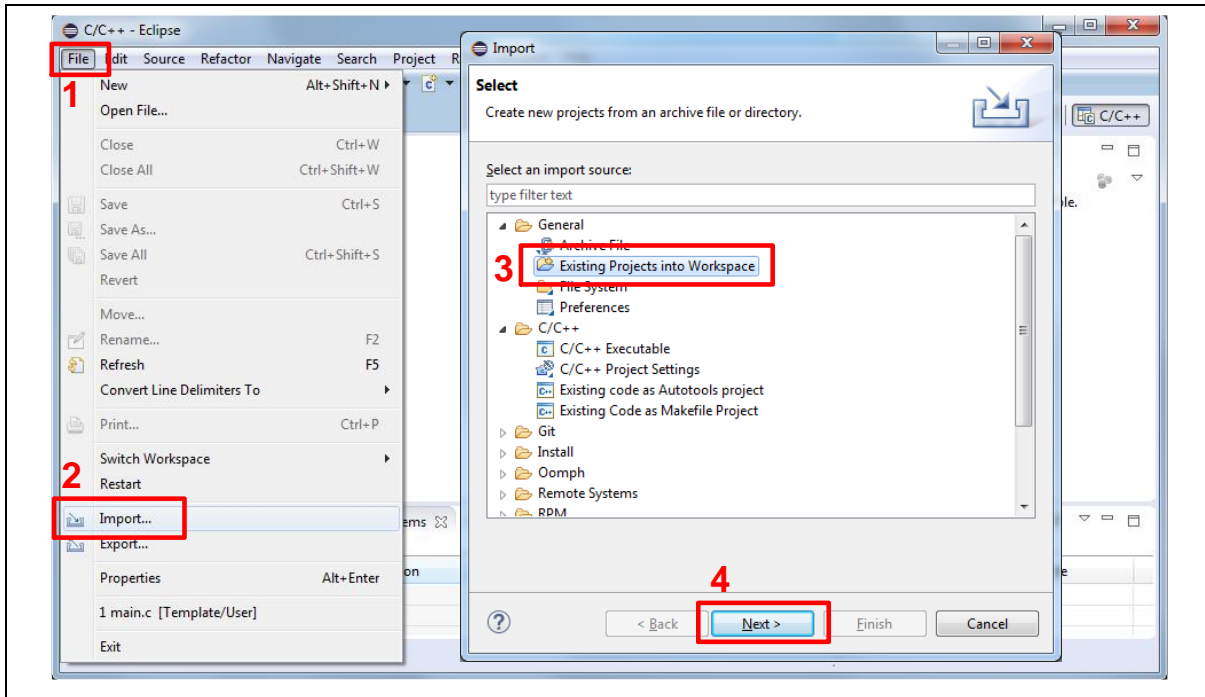
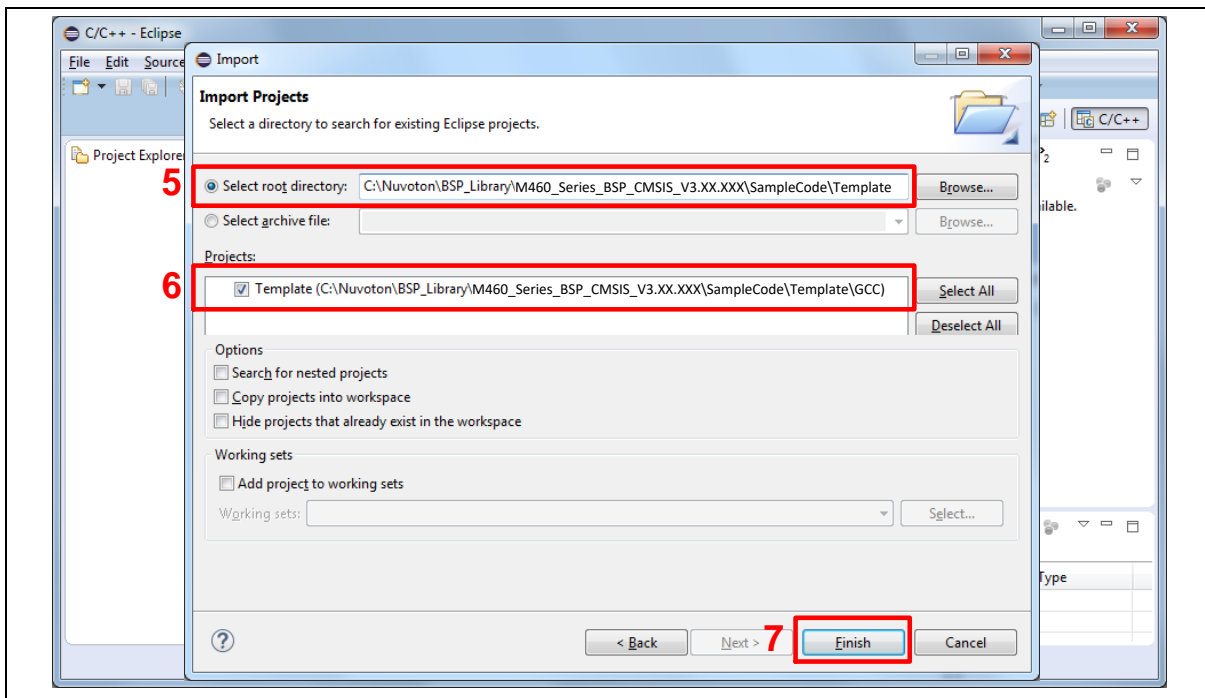

Figure 5-19 Import the Project in NuEclipse
Figure 5-20 Import Projects Windows
2. Import the "Template" project by following the steps presented in Figure 5-19 and Figure 5-20.